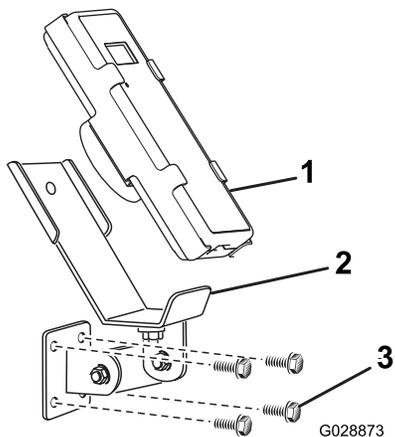
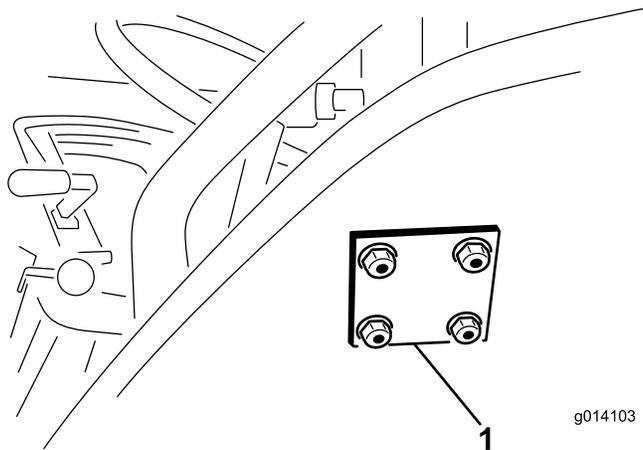

Figure 14
Figure 15
- Attach the mounting bracket and backing plate with 4 flange head bolts (5/16 x 1-1/2 inch) and flange locknuts (Figure 14 and Figure 15).